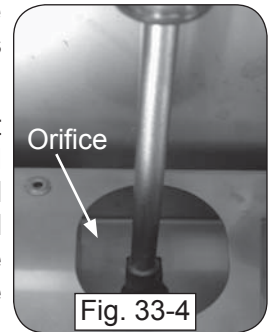

Fig. 33-4
5. Use a $\frac{3}{8}$ " hex nut driver to remove the exposed orifice (Fig. 33-4) and replace it with the correct orifice for the new gas. (See Table 1 at the beginning of this document for orifice sizes.)